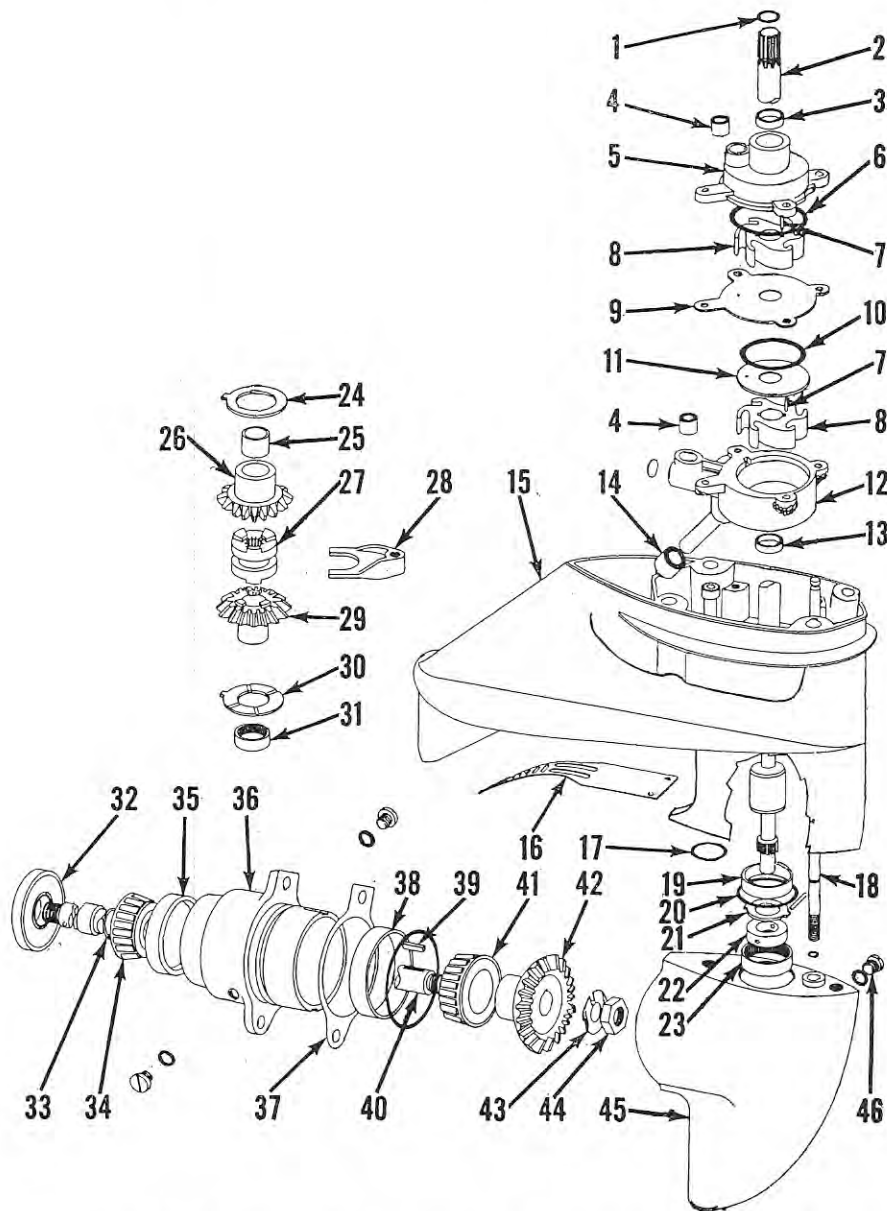

Fig. Mc94 — Exploded view of gearcase housing, water pumps and associated parts.
Use Figs. Mc94 and Mc95 as a guide when overhauling the lower unit. To renew or service the propeller shaft, gear or bearings, first drain the lubricant and remove the propeller and shear pin. Remove the cap screws retaining the bearing housing (36—Fig. Mc94) to the gearcase housing (45) and remove the propeller shaft, gear, bearings and bearing housing as a unit. To
Remove the screws retaining gearcase housing to exhaust housing and withdraw the unit straight down out of housing. Disassemble the baller pump and cooling pump as they are removed, then reassemble as outlined in COOLING SYSTEM paragraph. After pump housing (15—Fig. Mc94) has been removed, the driveshaft can be lifted upward out of forward and reverse gears and clutch dog. Remove the propeller shaft